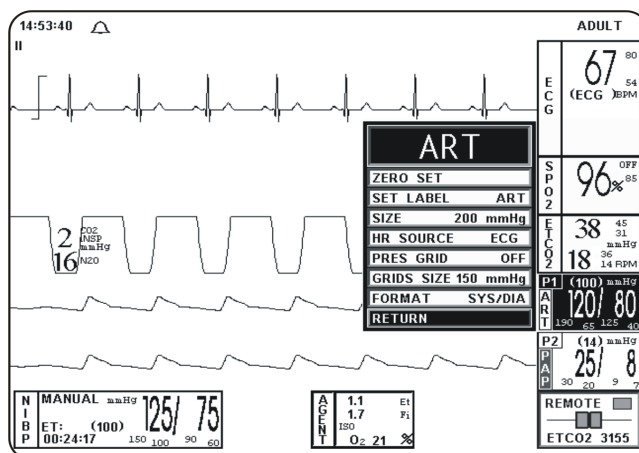

Figure 4-6. The P1 Menu (ART Selected)
4.3.2 The Invasive Pressure Menu. Selecting the **P1** Menu-Select Icon will bring up the **P1** Menu (See **Figure 4-6**). The title of his menu is dependent upon the operator selected label for P1; if "NONE" is selected the title will be **P1**; if any other available label is selected the title will be the selected label (for example, the label **ART** is selected in Figure 4-6 and the menu title is **ART**). **This menu has a time-out feature. If no action is taken for approximately 60 seconds, the monitor will automatically return to the Normal Screen.**